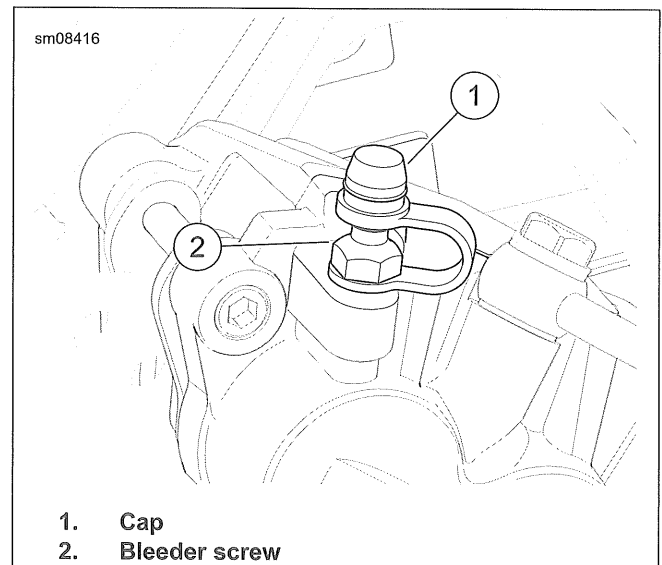

Figure 3-66. Bleeder Screw (Typical)
2. See Figure 3-66. Remove cap (1) from bleeder screw (2).